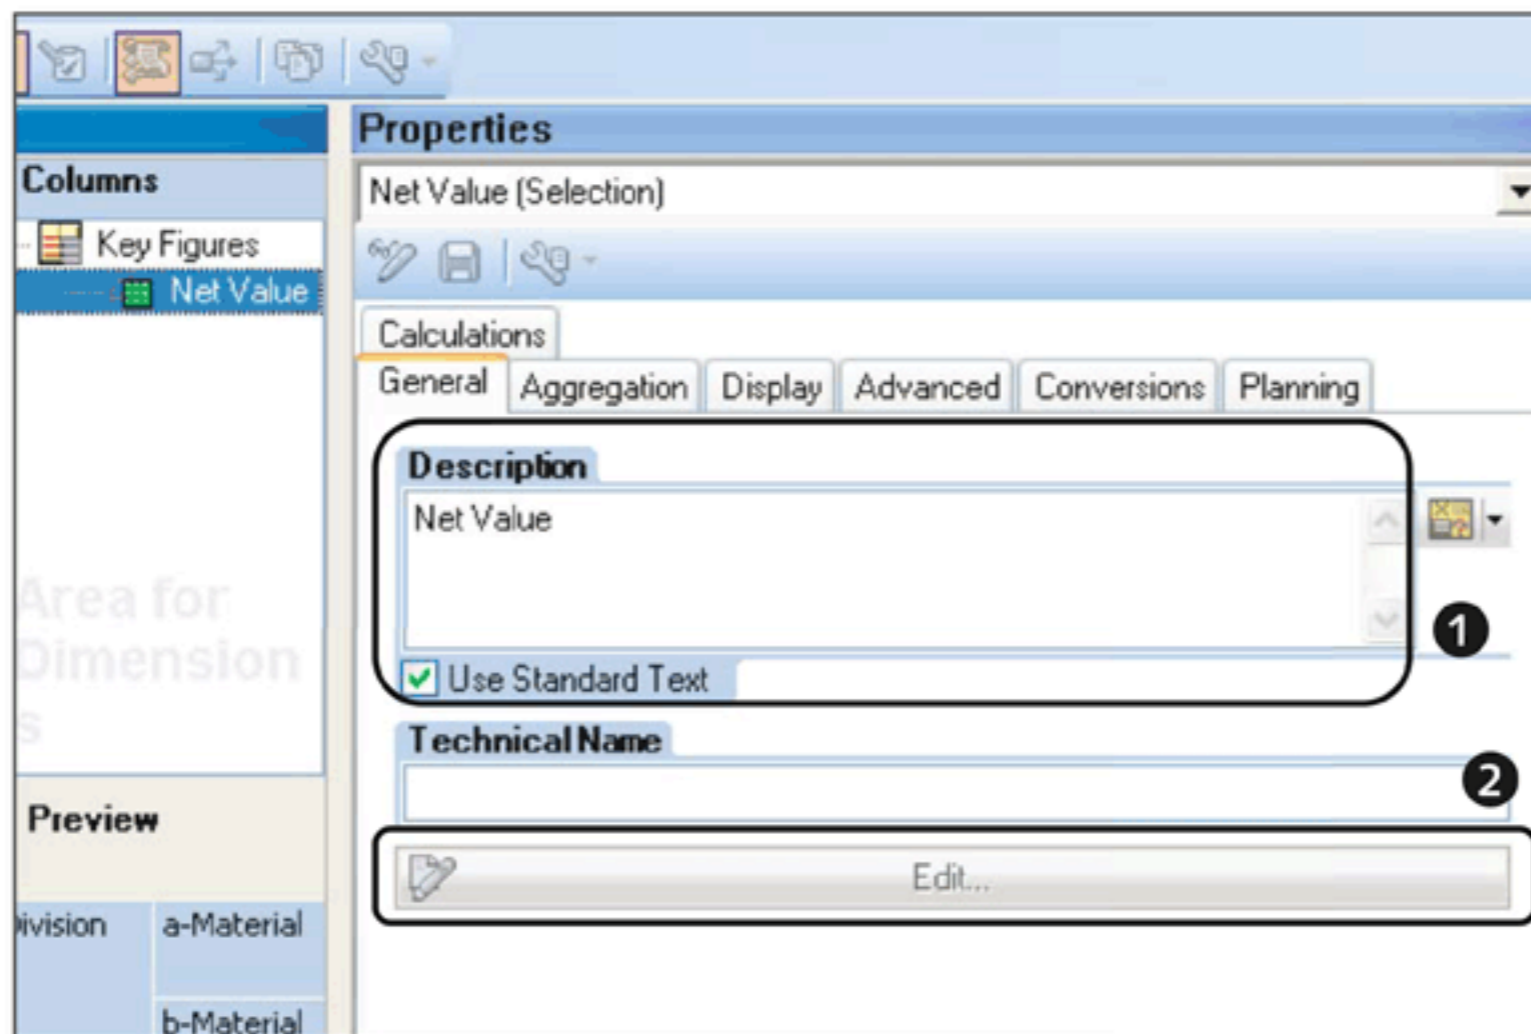

Figure 9.71 Key Figure Properties: General Tab
In this section, we take a look at different properties for key figure query elements. The PROPERTIES screen for a query element involving a key figure shows seven different tabs (see Figure 9.71). These tabs and important properties are explained next.
You maintain the DESCRIPTION and TECHNICAL NAME for the query element on this tab (❶ of Figure 9.71). The description maintained here is visible in the query output. If you want to keep the default description from the key figure InfoObject description, select the USE STANDARD TEXT checkbox. Additionally, you can edit the definition of the element by clicking on the EDIT button (❷).